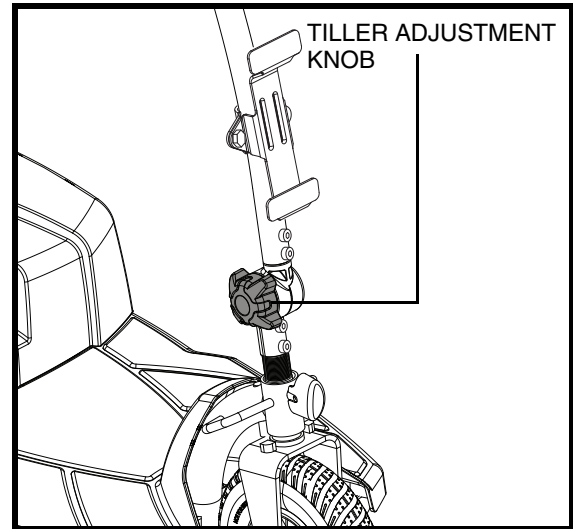

Figure 17. Tiller Adjustment Knob
1. While supporting the tiller, turn the tiller adjustment knob counterclockwise to loosen the tiller. See figure 17.